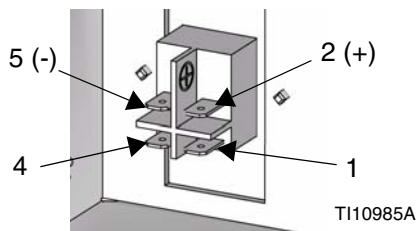
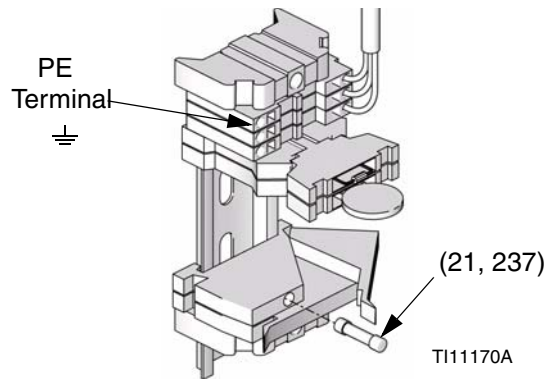

FIG. 40
FIG. 41
5. Install power supply output cable to CAN cable (509).
- Attach 24 V Class 2 power supply to terminals on the power switch: +24 Vdc to terminal 2 (+) and 24 Vdc return to terminal 5 (-). See FIG. 40. Attach protective earthing (PE) conductor to terminal marked $\perp$. See FIG. 41. The 24 Vdc power supply must be capable of supplying at least 1.0 Amp and have supply current protection rated at no more than 2.5 Amps.
- Install front and back shrouding covers (506, 507), retainers (504), and screws (503). See DataTrak Kit parts illustration on page 50.